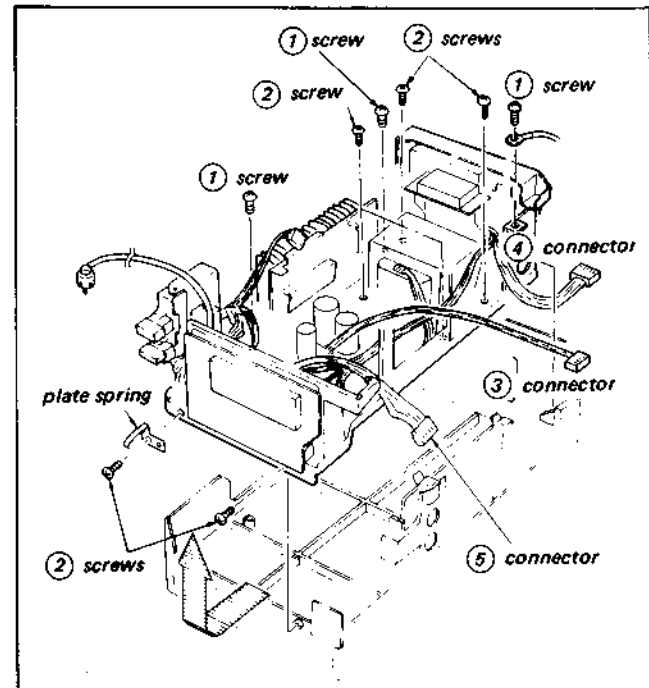

Fig. 1-3. Timer tuner unit removal
3. Timer Tuner Unit Removal (See Fig. 1-3)